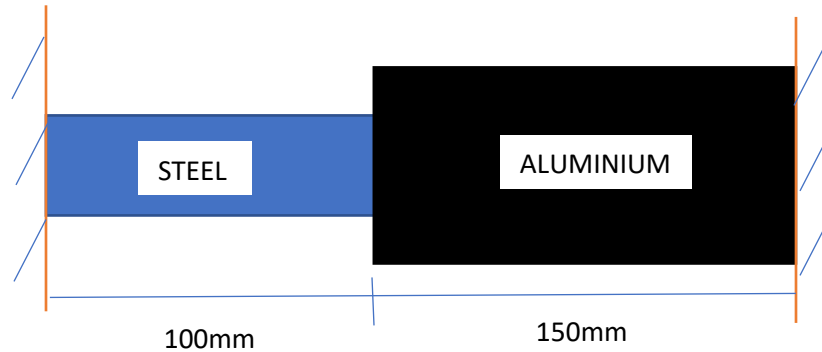

Figure 1(c)/ Rajah 1(c)
- (c) The **Figure 1(c)** shows a composite bar rigidly fixed at both ends. Calculate the stress that occurs in every bar if the temperature is increased by 50°C .